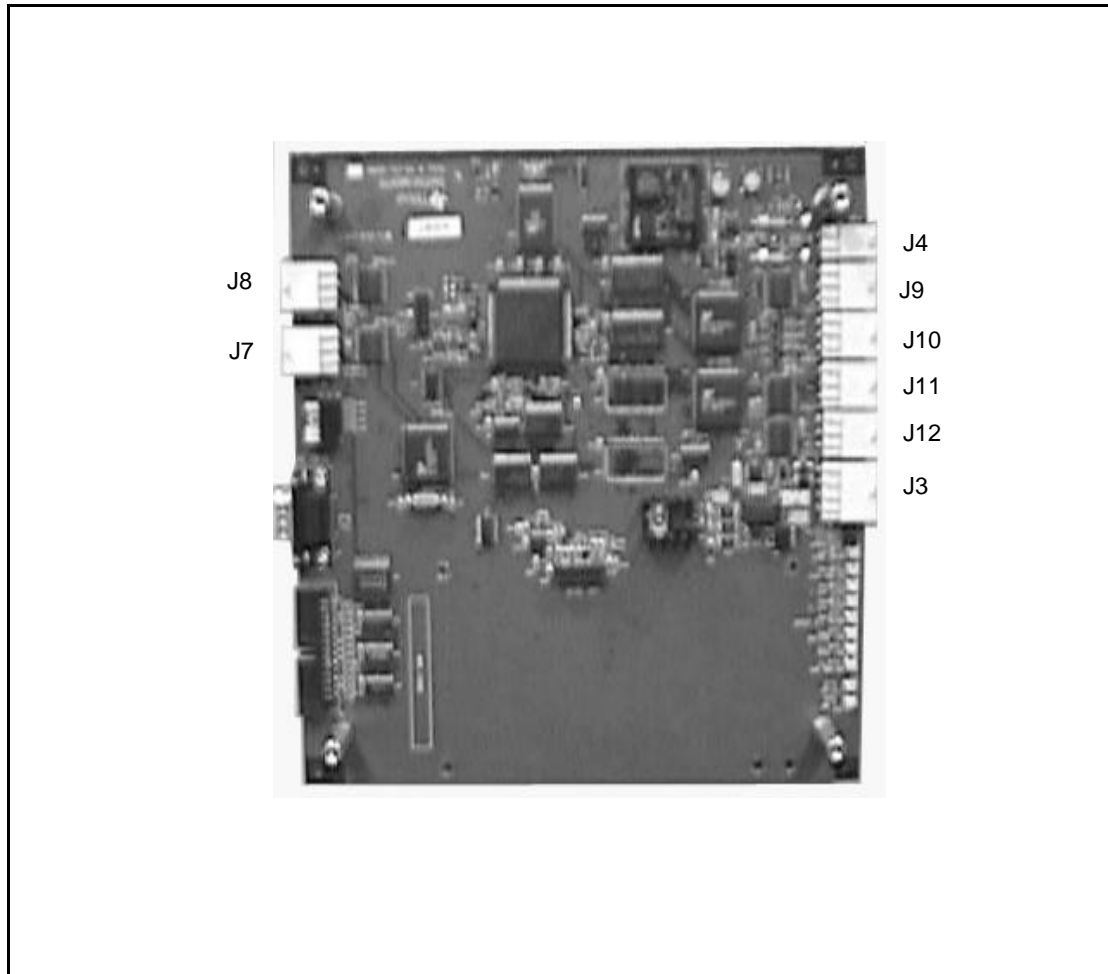

Figure 2-12 DCB Connections
Complete the following steps to install the new cables in the dispenser head. Refer to Figure 2-12 and Figure A-1 (Interconnection Wiring Diagram).
2.10.1 Installing Power and DCB Assembly Cables (Refer to Appendix A Wiring Diagram and Figure 2-12)